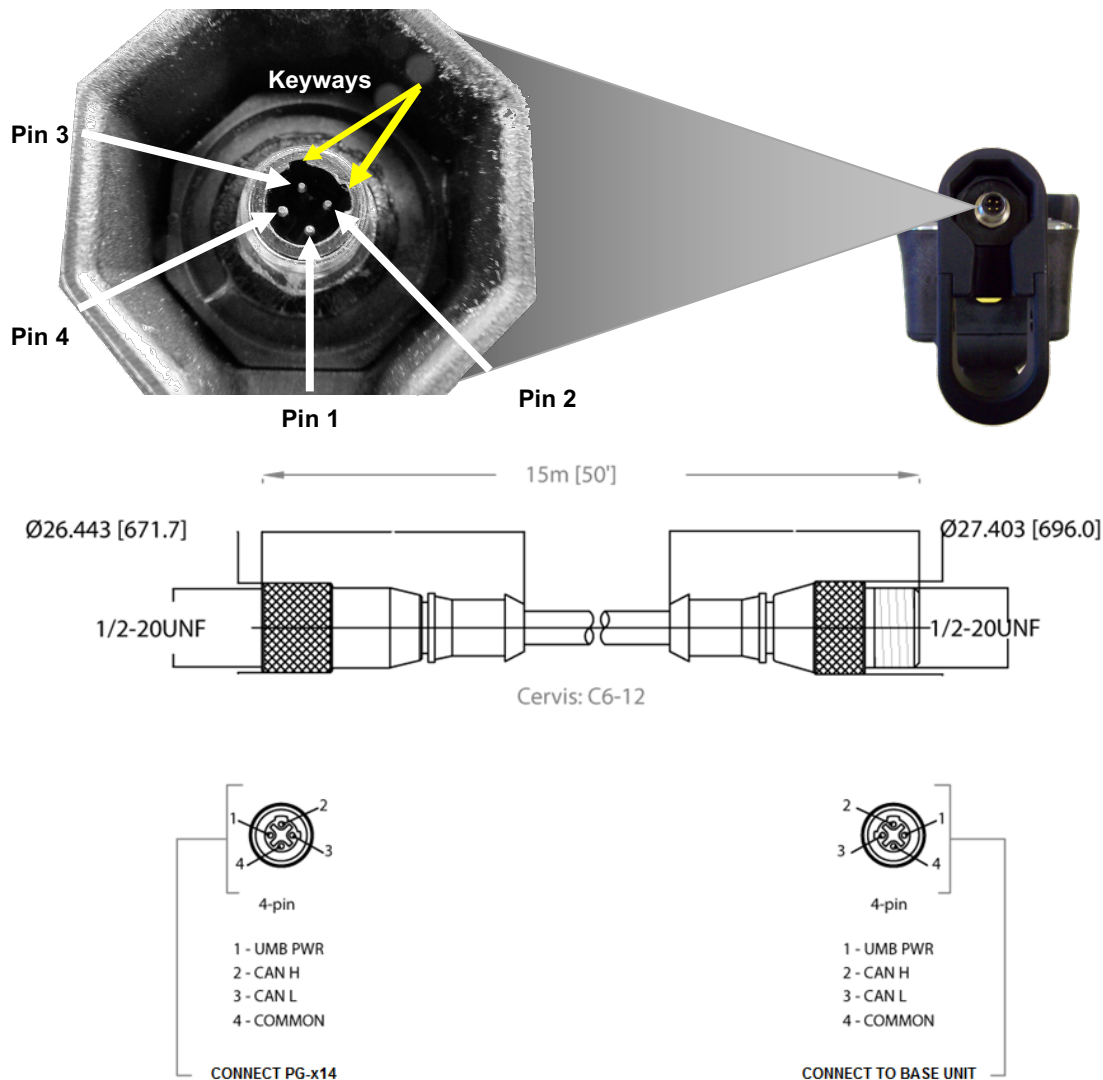

Figure 4. Pistol Grip Tether Connection
The pistol grip tether connection is a 4-pin A-code or C-code connection that is keyed to prevent connector pin misalignment. A cap is attached to the handheld remote with a sturdy chain to prevent loss while it is unscrewed from the connector. When not in use, the operator should cap the connector. Radio communication is disabled whenever the unit is powered via cable and connected to the base unit. When the cable is attached, all control signals are transmitted via the cable. The example shown in Figure 4 uses a Cervis C6-12 C-Code style cable, but other cables and configurations are available. For detailed information on tether options, contact your Cervis, Inc. sales representative at: (724) 741-9000.